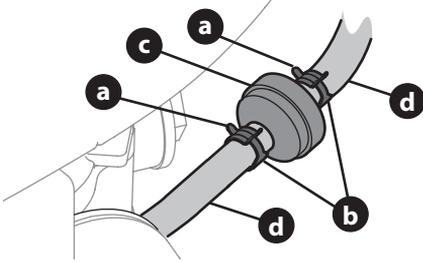

Figure 18
2. Use pliers to squeeze tabs (a) on the clamps (b), then slide the clamps away from the fuel filter (c) (Figure 18).